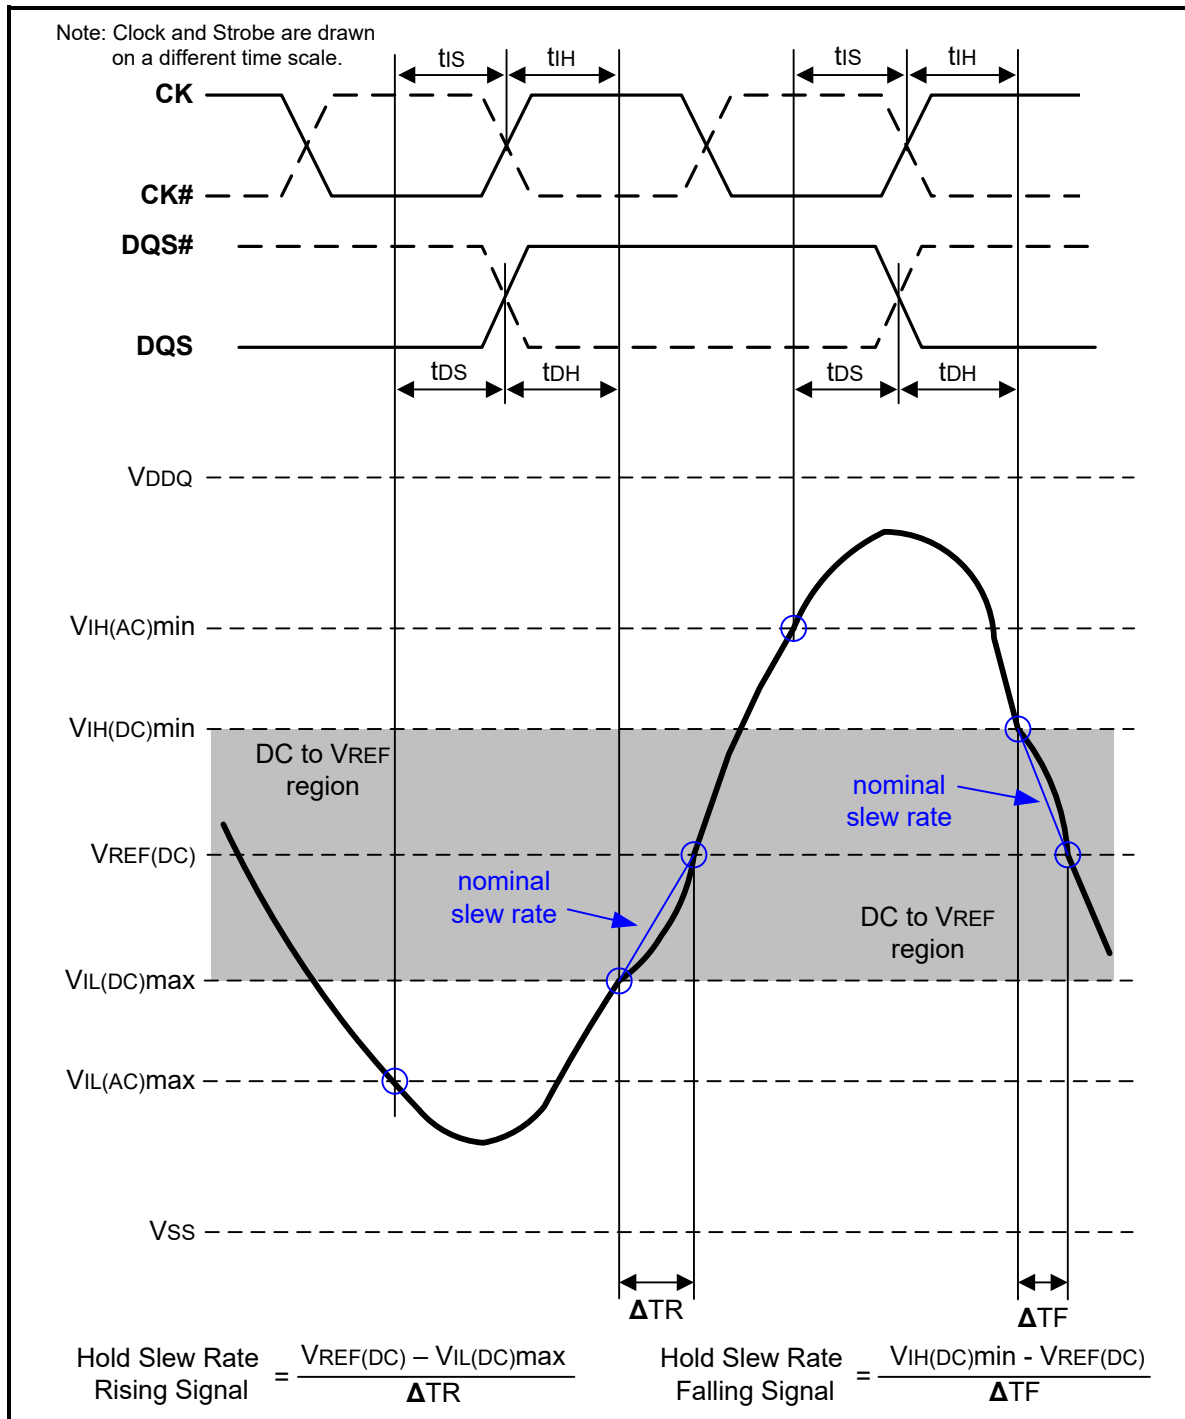
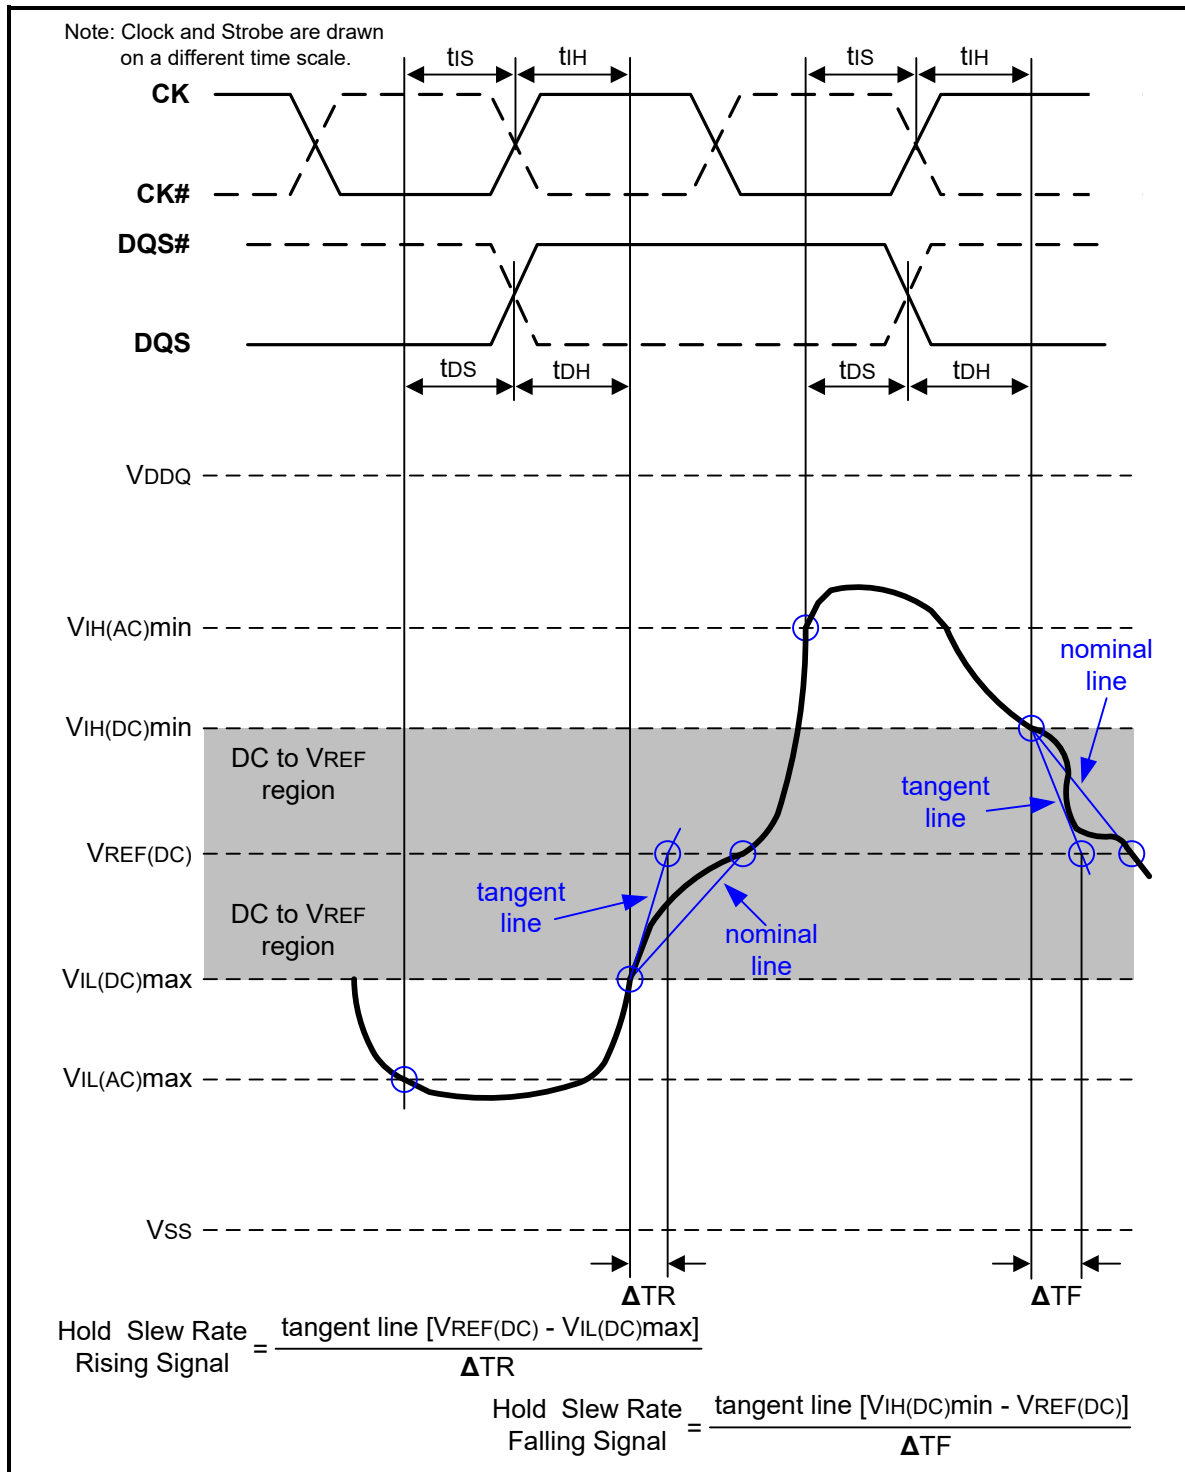

Figure 108 – Illustration of nominal slew rate for hold time t_{DH} (for DQ with respect to strobe) and t_{IH} (for ADD/CMD with respect to clock)
Figure 110 – Illustration of tangent line for hold time t_{DH} (for DQ with respect to strobe) and t_{IH} (for ADD/CMD with respect to clock)
Hold (tDH) nominal slew rate for a rising signal is defined as the slew rate between the last crossing of VIL(DC)max and the first crossing of VREF(DC). Hold (tDH) nominal slew rate for a falling signal is defined as the slew rate between the last crossing of VIH(DC)min and the first crossing of VREF(DC) (see Figure 108). If the actual signal is always later than the nominal slew rate line between shaded 'DC level to VREF(DC) region', use nominal slew rate for derating value. If the actual signal is earlier than the nominal slew rate line anywhere between shaded 'DC to VREF(DC) region', the slew rate of a tangent line to the actual signal from the DC level to VREF(DC) level is used for derating value (see Figure 110).